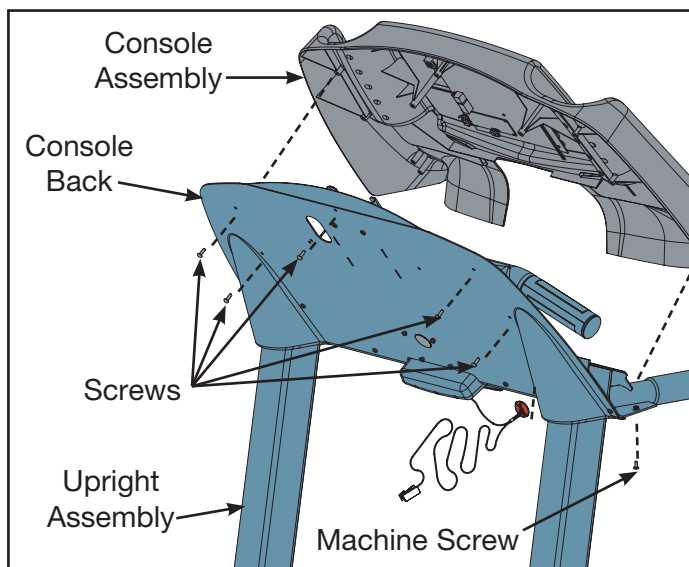

Figure 10
**G.** Using a Phillips screwdriver secure the two screws (#14) securing the console back cover (#5) to the console front (#4). See Figure 10.
**A.** Using a Phillips screwdriver, partially tighten each motor cover side (left and right) with four screws, 10-32 x .75" (#16). See Figure 10.